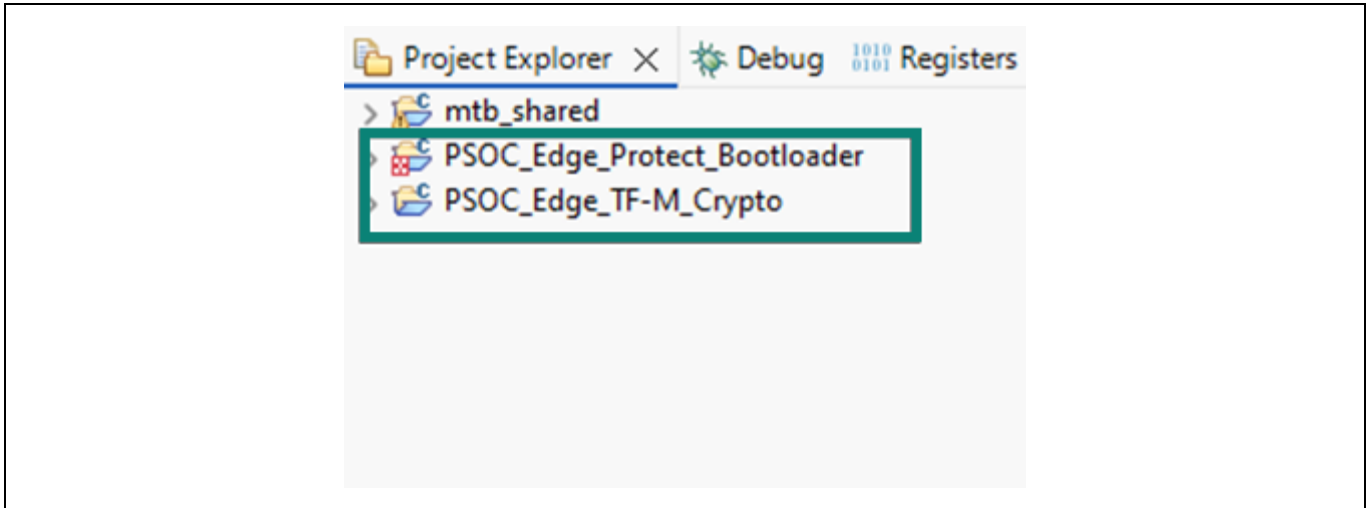

Figure 8 Project Explorer window
8. When you click **Create**, two new ModusToolbox™ applications are created. You can see both the applications in the Project Explorer window, as shown in Figure 8.